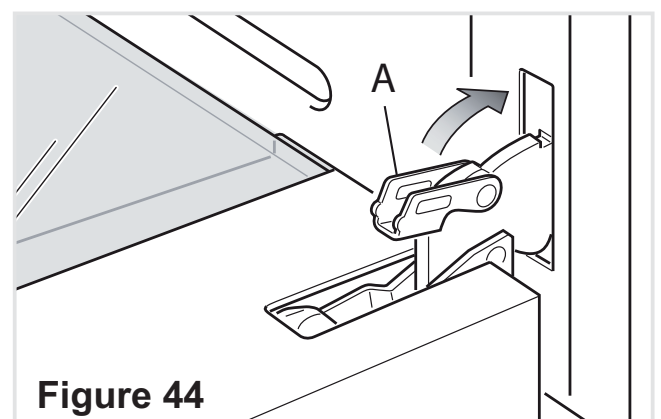

Figure 44
4. Unlock the oven door by opening it completely and closing the lever "A" on the left and right hinges (Fig. 44).